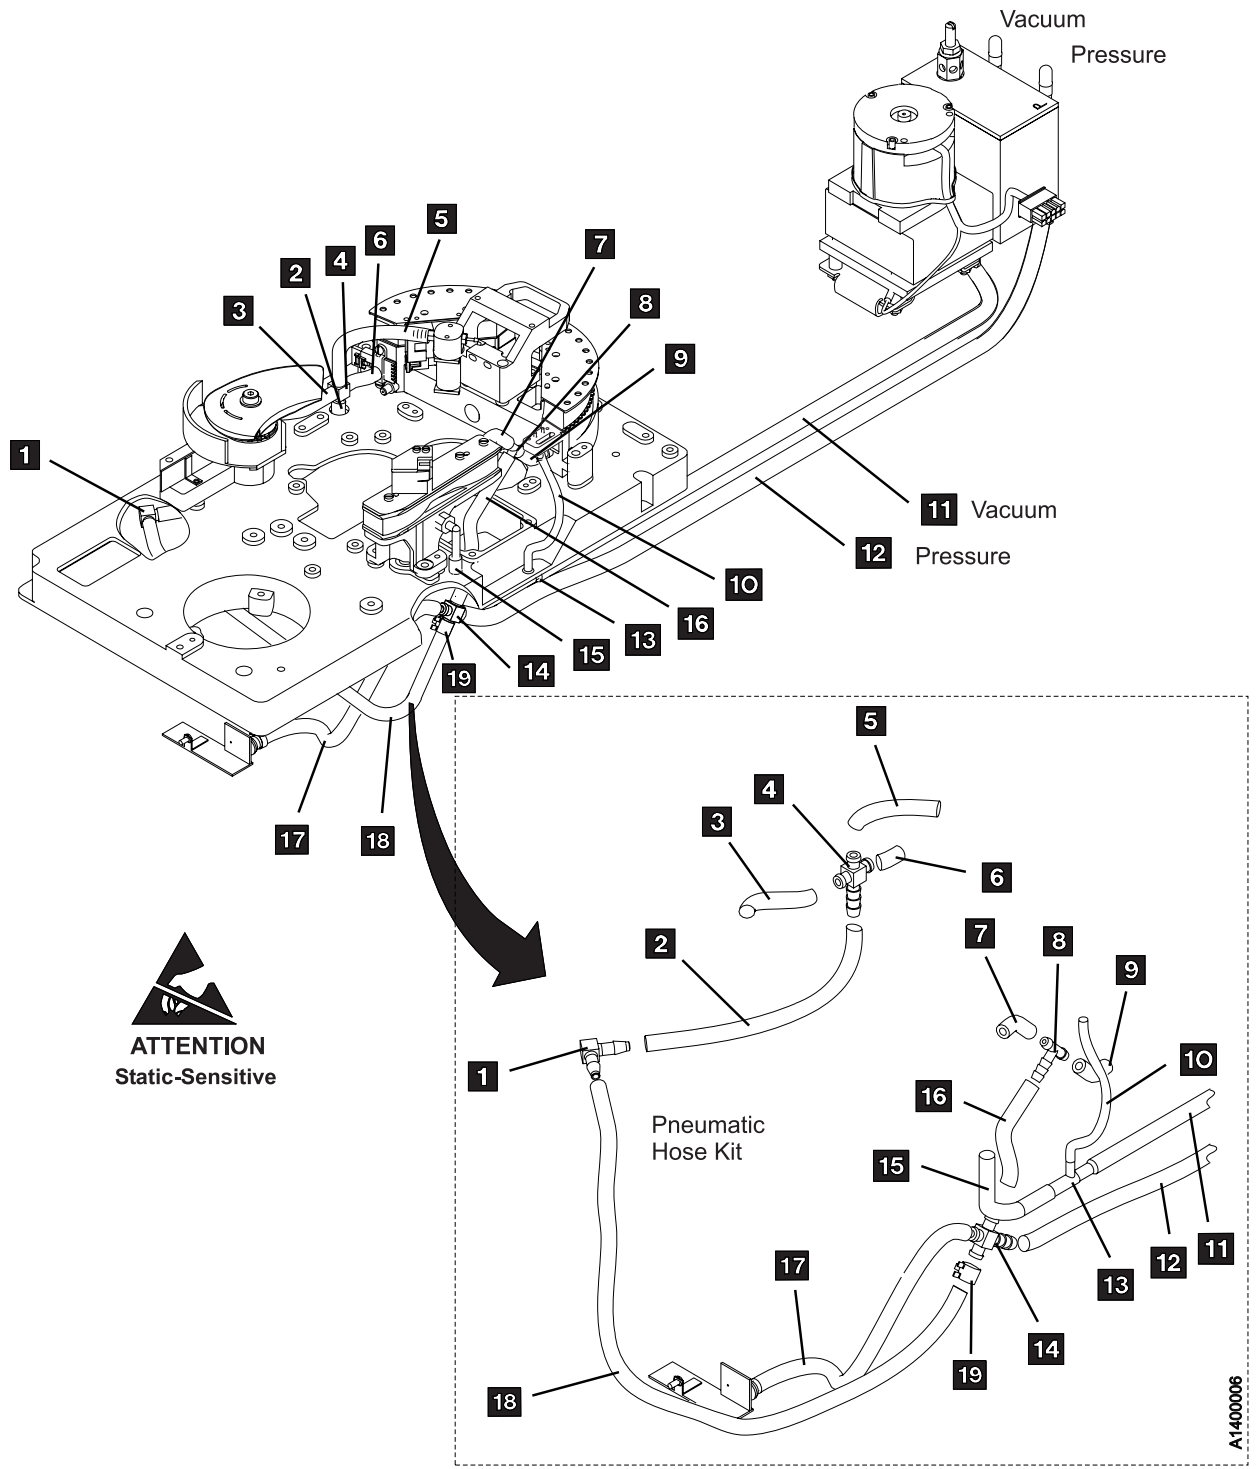

Figure 316. Pneumatic Hose Kit
7. Remove the drive and put on a work surface. See Figure 316 on page LOC*CAR-51.